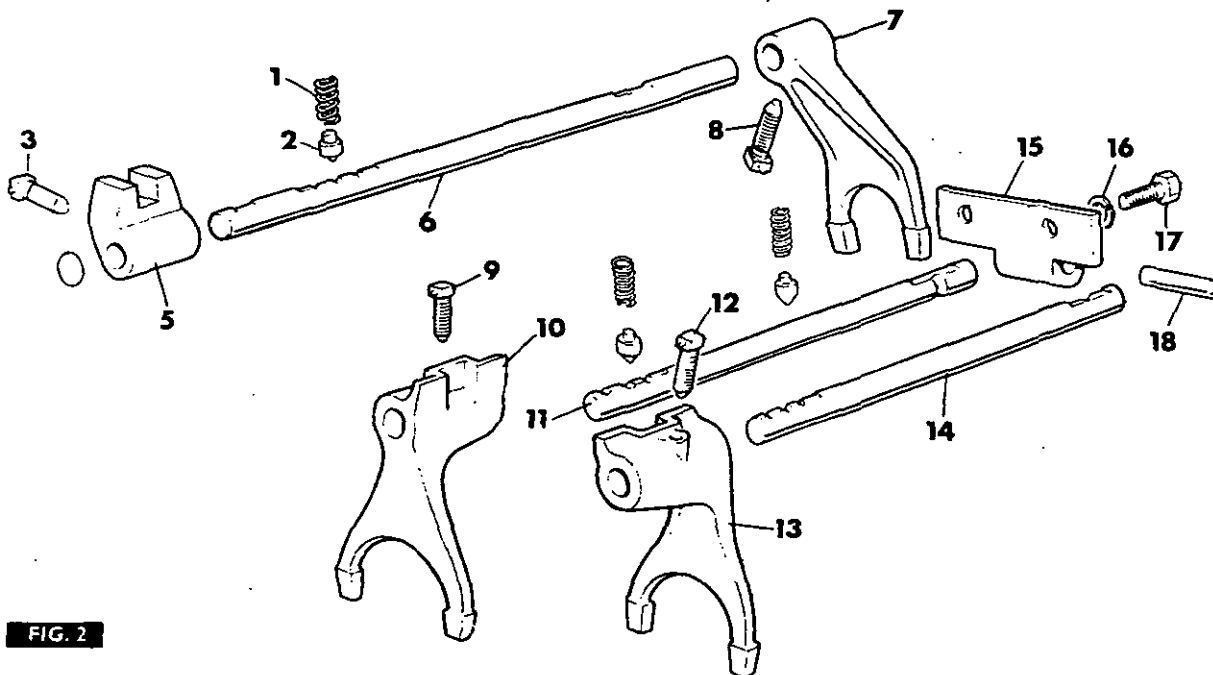

FIG. 2
3. Fig 2. Release the locking wire from the 1st/rev. and 2nd/3rd shift forks (10,13), and from the rear end of the HIGH/LOW shift rail (6).